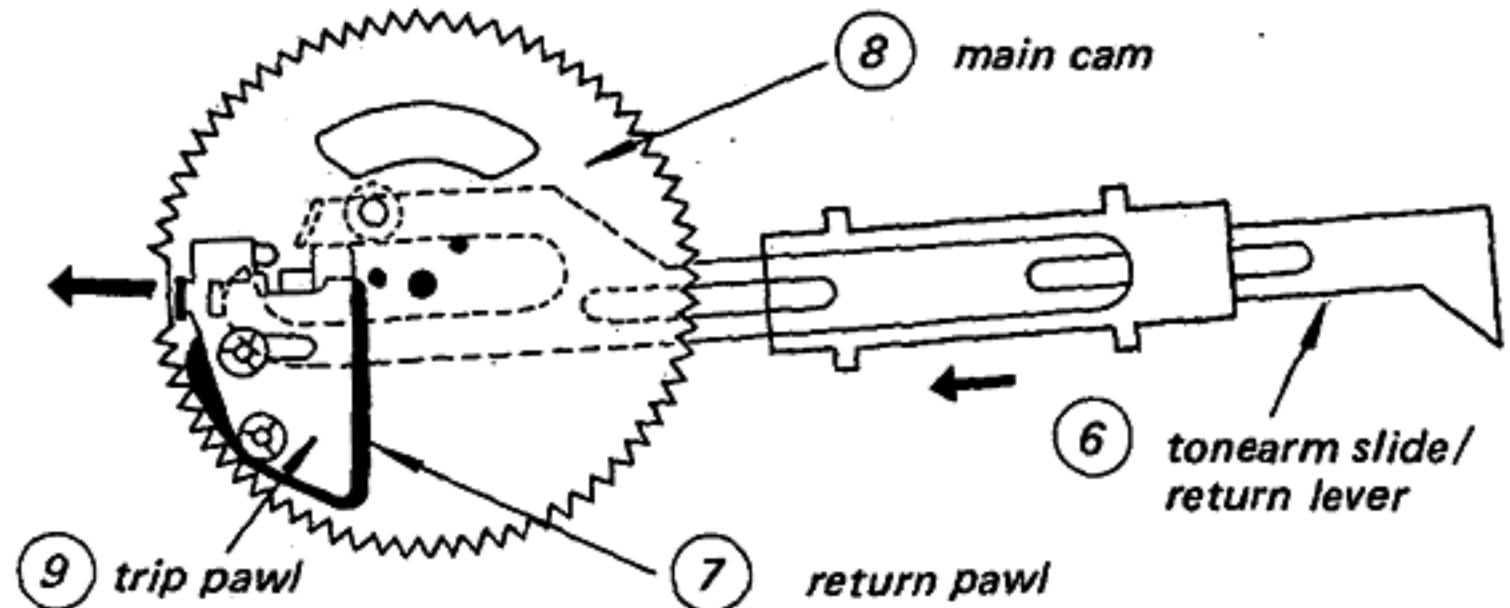
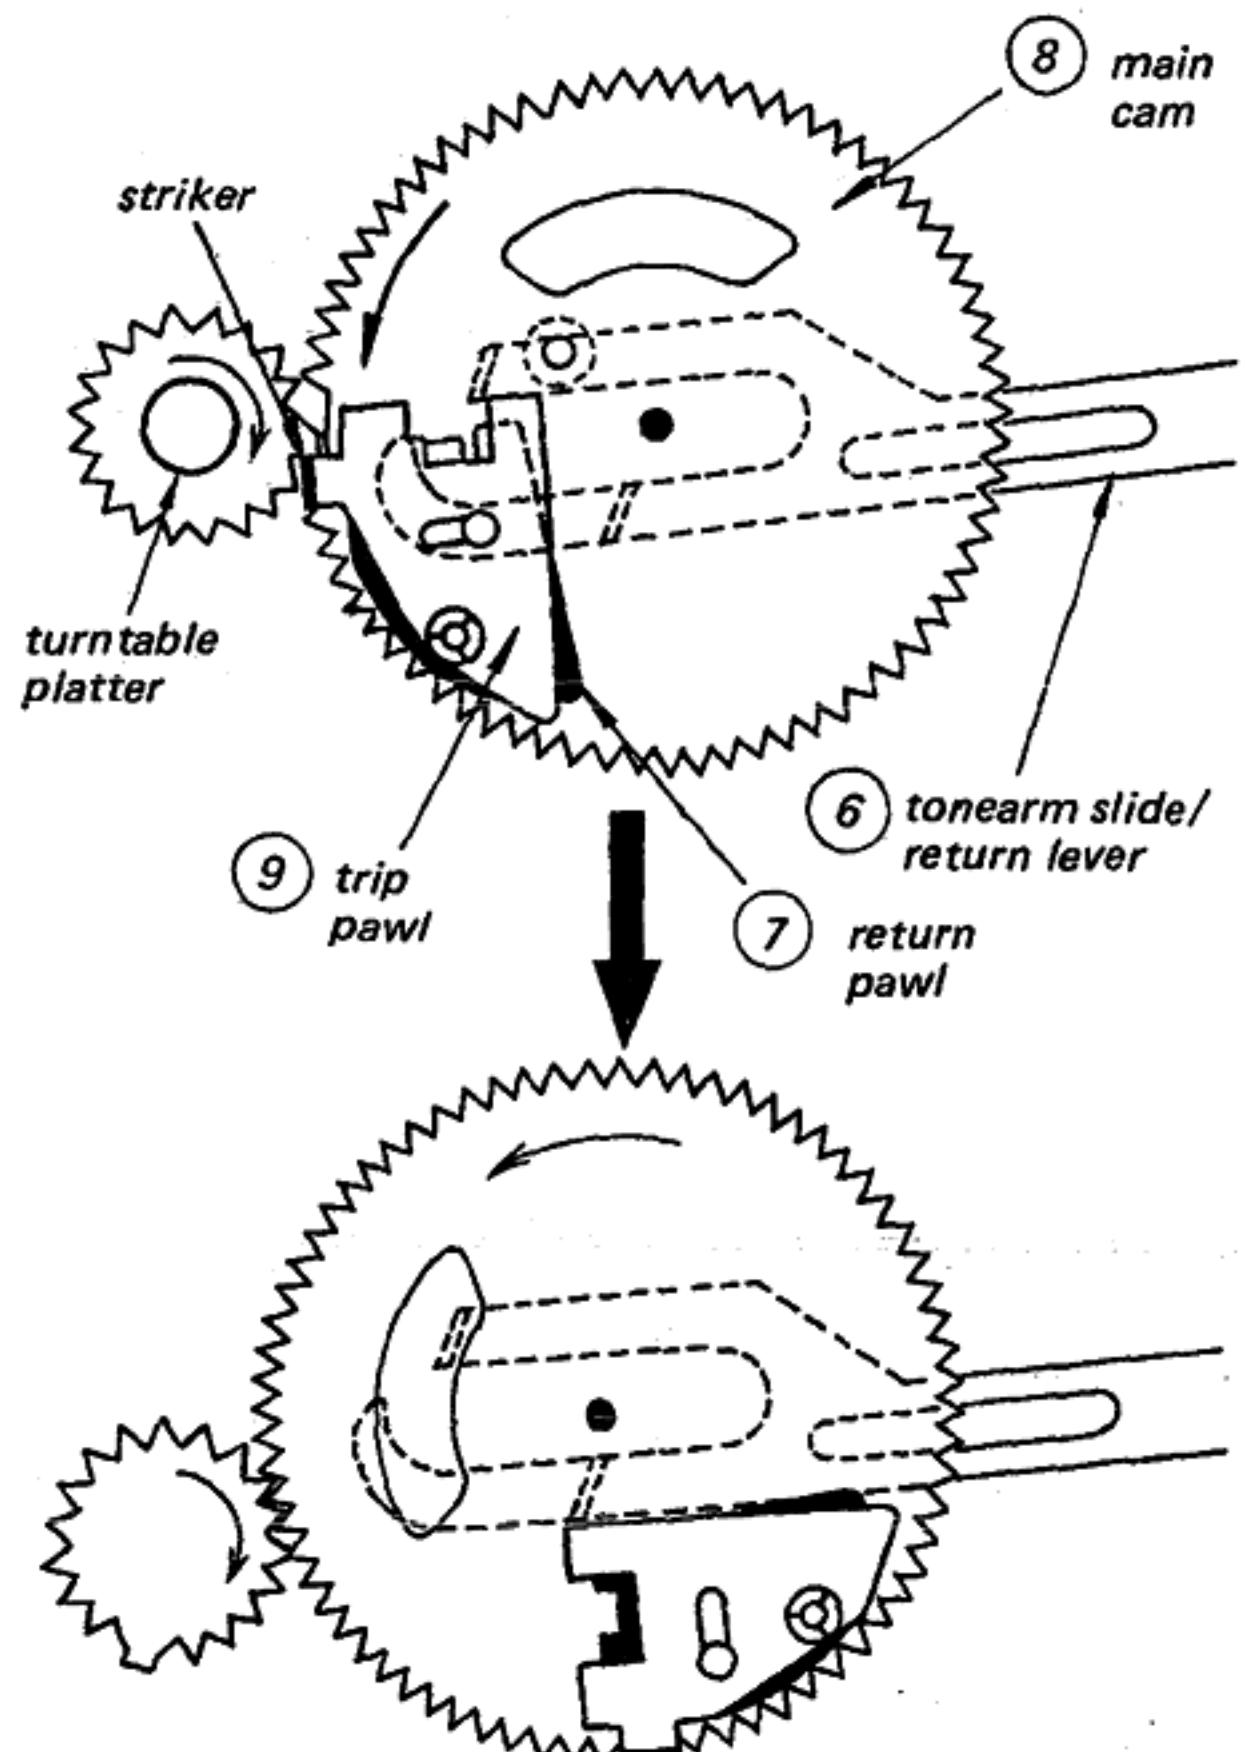
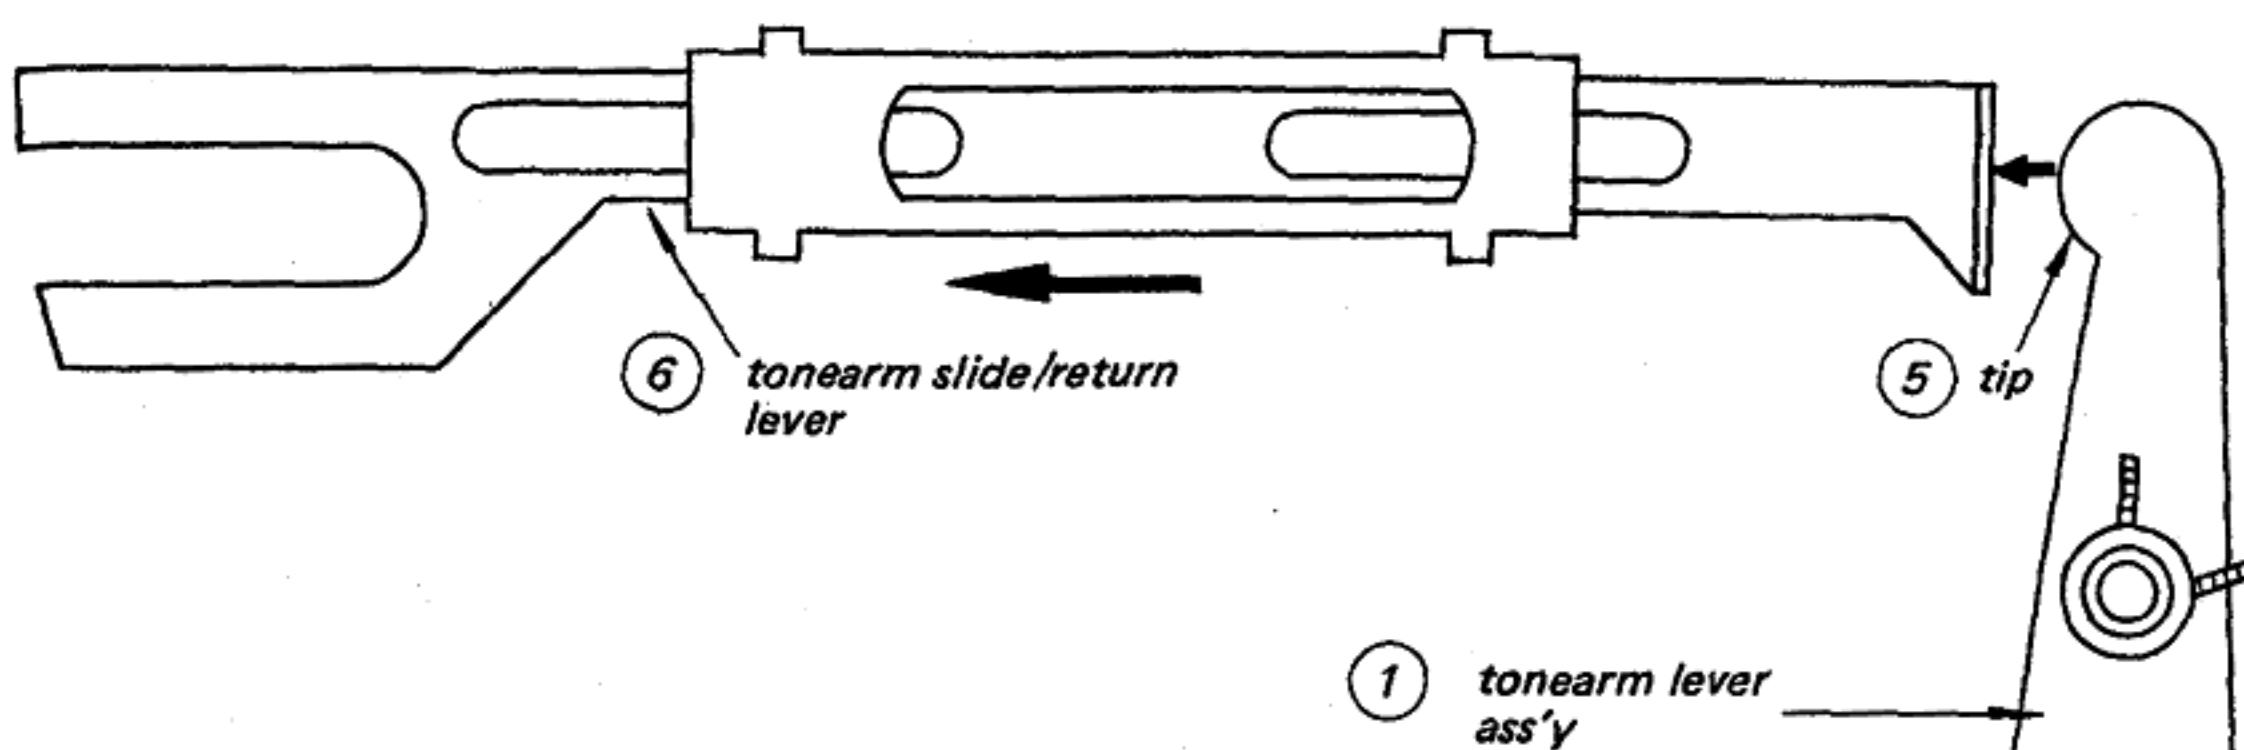

Fig. 1-3. Return pawl movement
Fig. 1-4. Main cam movement
Fig. 1-2. Tonearm slide/return lever movement
When the stylus approaches the lead-out groove of record, the tip (5) of the tonearm lever ass'y (1) bears against the tonearm slide/return lever (6) and slides it toward the turntable center as shown in Fig. 1-2. When the stylus enters the first groove, the tonearm slide/return lever (6) pushes the return pawl (7) on the main cam (8) toward the turntable center along with the trip pawl (9) which is simply mounted on the return pawl (7). The trip pawl is moved by means of friction between the return pawl and the trip pawl as shown in Fig. 1-3. The trip pawl (9) enters path of the revolving-turntable shaft's tooth, when the stylus enters the eccentric lead-out groove as shown in Fig. 1-4.